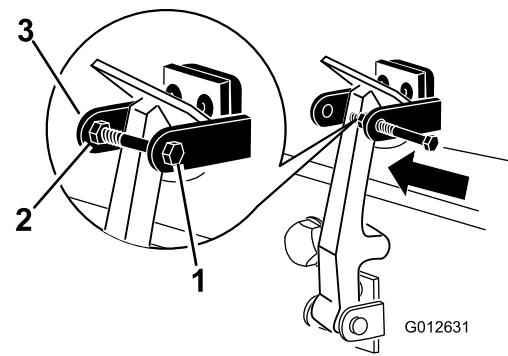

Figure 9
8. Install the bolt into the other arm of the hood-latch bracket to lock the latch in position (Figure 9). Tighten the bolt but do not tighten the nut.